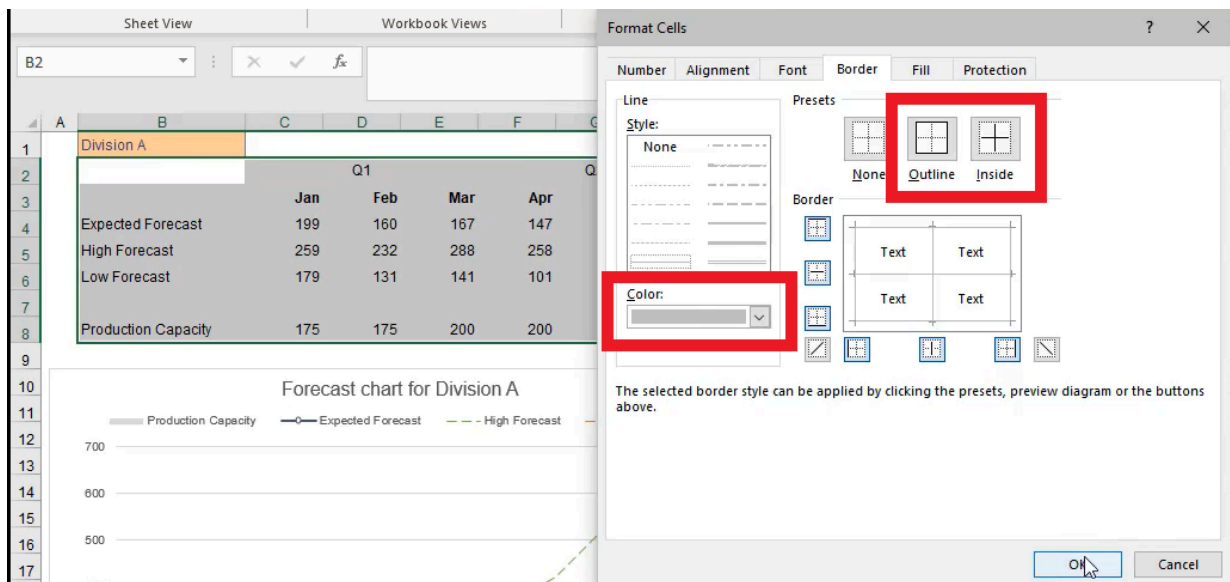

Figure 37.29
7. Add a light gray border by selecting **Outline** and **Inside** just in case we need to go back and reference the data quickly. (See **Figure 37.29**)